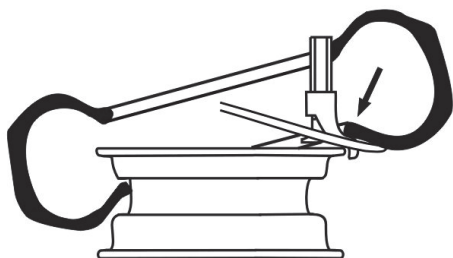

Fig.25
- Lift wheel, make the bottom edge of wheel as Fig. 25.